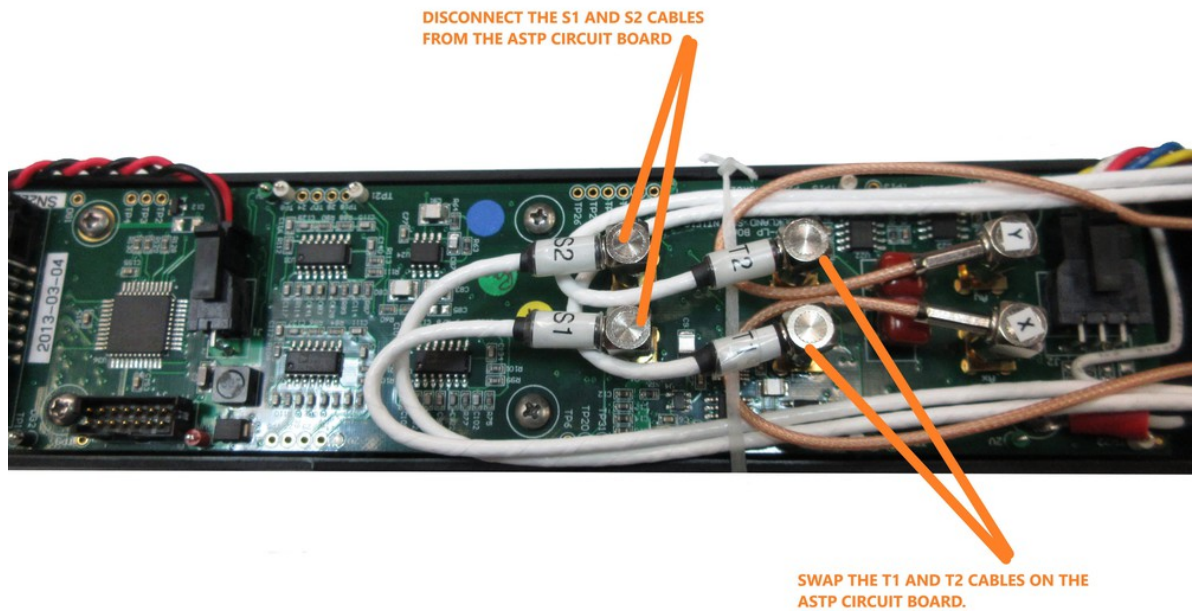

Figure 48: Modifying SMC connections on the ASTP board to identify the cause of noisy data.
- (ii) Open up the instrument and disconnect the shear probe's SMC connection to the ASTP board (Figure 48). Do a bench test. If the problem is resolved, then the SMC connector is likely damaged and the *SMC cable assembly may need to be replaced*.
- (ii) Open up the instrument and swap the two thermistor SMC connections to the ASTP board (Figure 48). Do a bench test. If the noise is now on the opposite channel, then the SMC connector is likely damaged and the *SMC cable assembly may need to be replaced*.